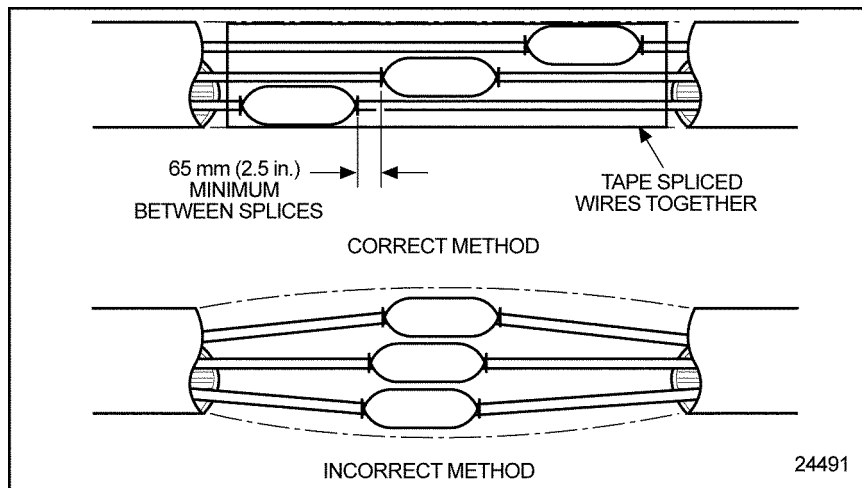

Figure 2-19 The Correct and Incorrect Method of Staggering Multiple Splices
1. Stagger the position of each splice (see Figure 2-19) so there is at least a 2.5 in. (65 mm) separation between splices.